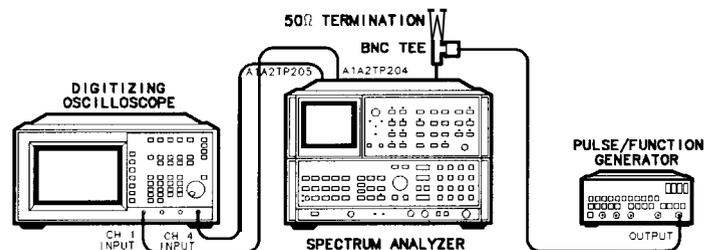
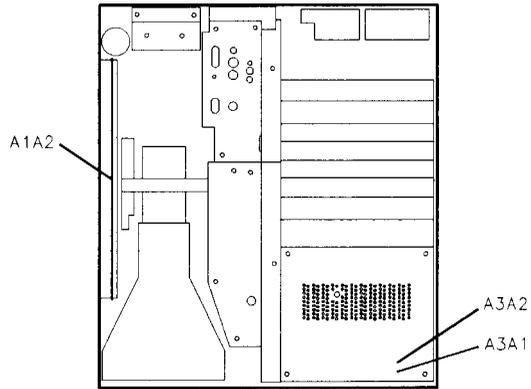
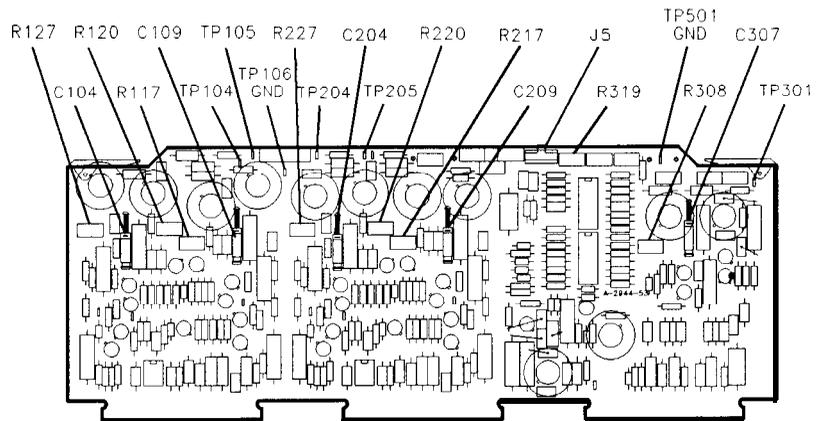
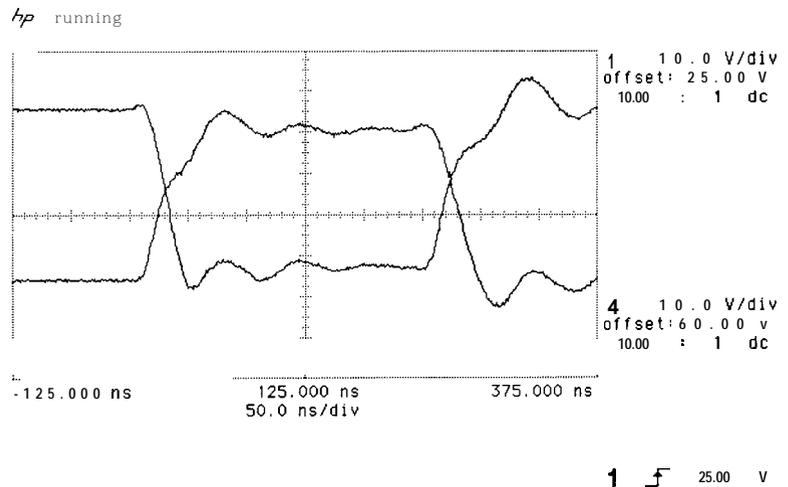

Figure 3-23. Preliminary Display Adjustments Setup
Figure 3-24. Location of A1A2 and A3A2
Figure 3-25. A1A2 Adjustment Locations
Figure 3-26. X + and X- Waveforms
8. Connect the channel 1 10:1 divider probe to A1A2TP204, and the channel 4 probe to A1A2TP205, as shown in Figure 3-23. Connect the probe ground leads to A1A2TP106. See Figure 3-24 and Figure 3-25 for the location of the assemblies and test points.
9. Remove the cover over A3 Digital Storage Section and remove A3A2 Intensity Control Assembly. Insert the Display Adjustment PC board (HP part number 85662-60088) into the A3A2 slot. See Figure 3-24 for the location of the A3A2 assembly.
11. Connect the output of the Pulse/Function Generator to J1 (X input) on the Display Adjustment PC board in the A3A2 slot as shown in Figure 3-23.
14. The X+ deflection and X- deflection waveforms should be superimposed on the oscilloscope display, as shown in Figure 3-26. If necessary, adjust A1A2R227 X POSN and A1A2R220 X GAIN for a centered display of at least four vertical divisions. See Figure 3-25 for the location of the adjustments.
19. Connect the oscilloscope's channel 1 probe to A1A2TP104 and the channel 4 probe to A1A2TP105. See Figure 3-25 for the location of the test points. Connect the output of the pulse/function generator to J2 (Y input) on the Display Adjustment PC board in the A3A2 slot.